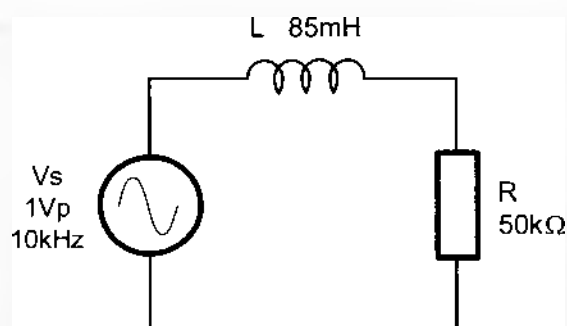

Figure 7
1. Calculate the reactance of the inductor in the circuit of Figure 7.